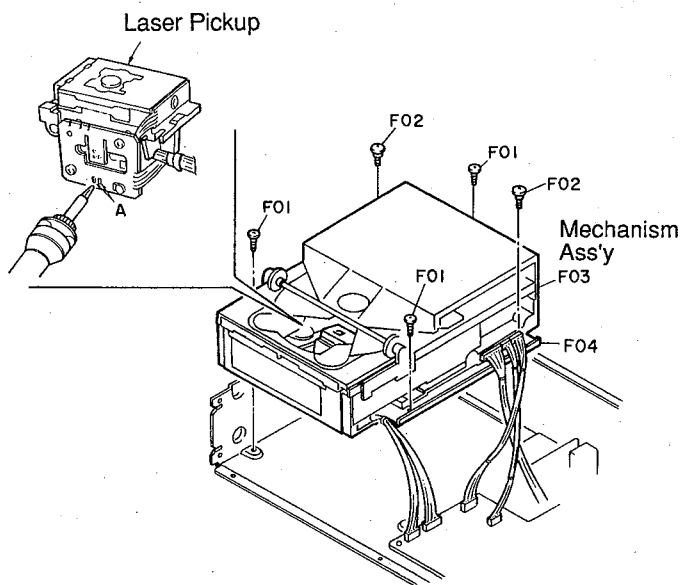

Fig. 2.1
- (1) Remove the Top Cover.
- (2) Turn ON the power and press the Eject/Load button to eject the Tray Ass'y.
- (3) Remove the Tray Panel Ass'y from the Tray Ass'y upwardly.
- (4) Press the Eject/Load button to load the Tray Ass'y.
- (5) Turn OFF the power and unplug the power cord from the wall outlet.
- (6) To disassemble the Front Panel Ass'y, remove 4 screws at both ends and 4 screws (3 screws for MB-3s) on the bottom.
- (7) Shortcircuit the lands "A" of the Laser Pickup. Refer to Fig. 2.1.